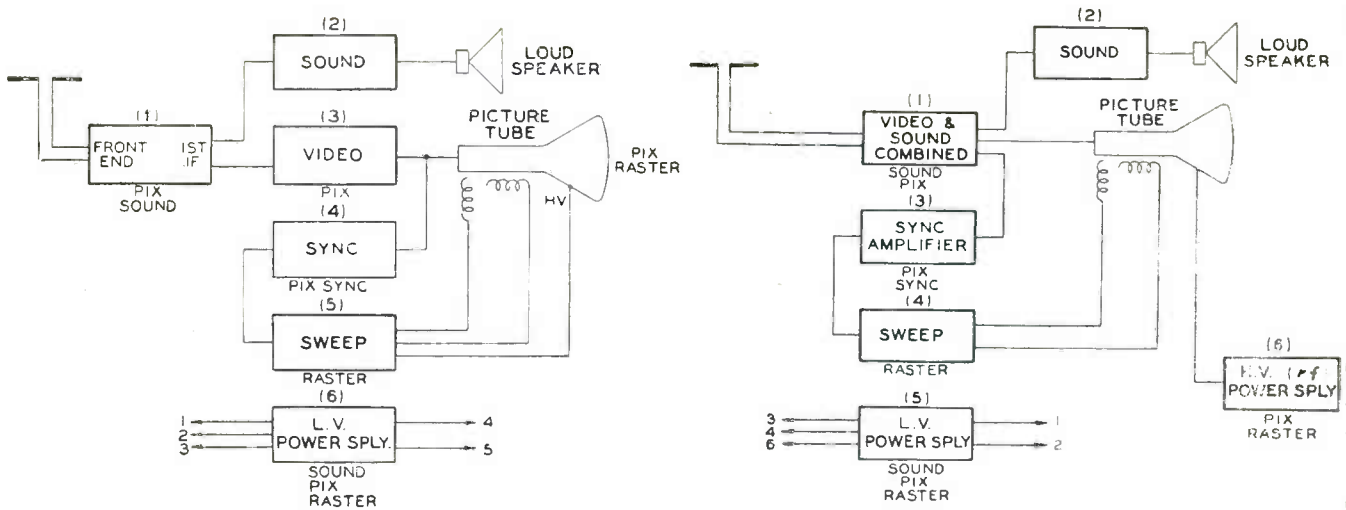

Fig. 3-55: (Left) Block diagram of split-sound TV receiver. (Right) Block diagram of intercarrier receiver.
1. *No Sound, No Pix, Raster O.K.*: Reference to the block diagrams of TV receivers as shown in Fig. 3-55 will reveal that the only sections re-